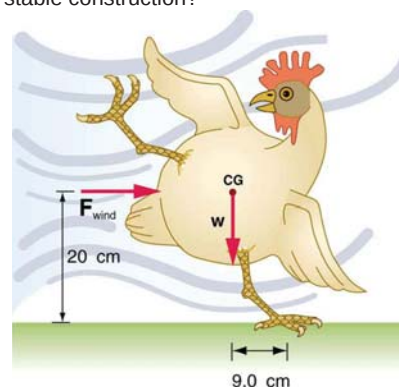

Figure 9.32
- (a) What force must be exerted by the wind to support a 2.50-kg chicken in the position shown in **Figure 9.32**? (b) What is the ratio of this force to the chicken's weight? (c) Does this support the contention that the chicken has a relatively stable construction?